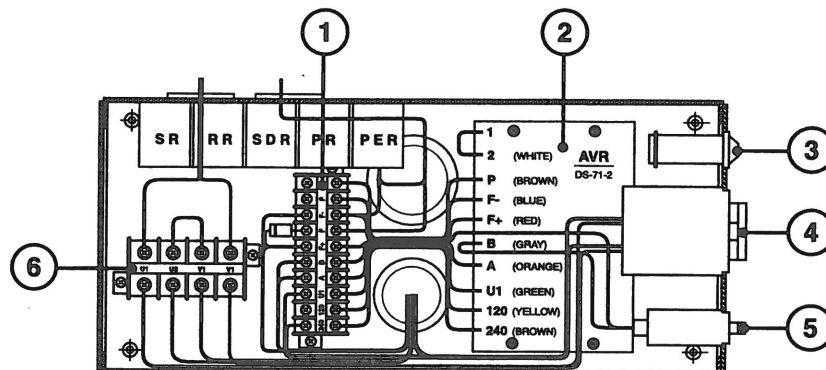

Figure 24: Control Box Components.
3. Generator excitation is provided by activation of the pre-heat circuit and electrical output voltage is controlled by the automatic voltage regulator (AVR) located in the control box (Figure 24, Item 2).
### CONTROL BOX (Figure 24)